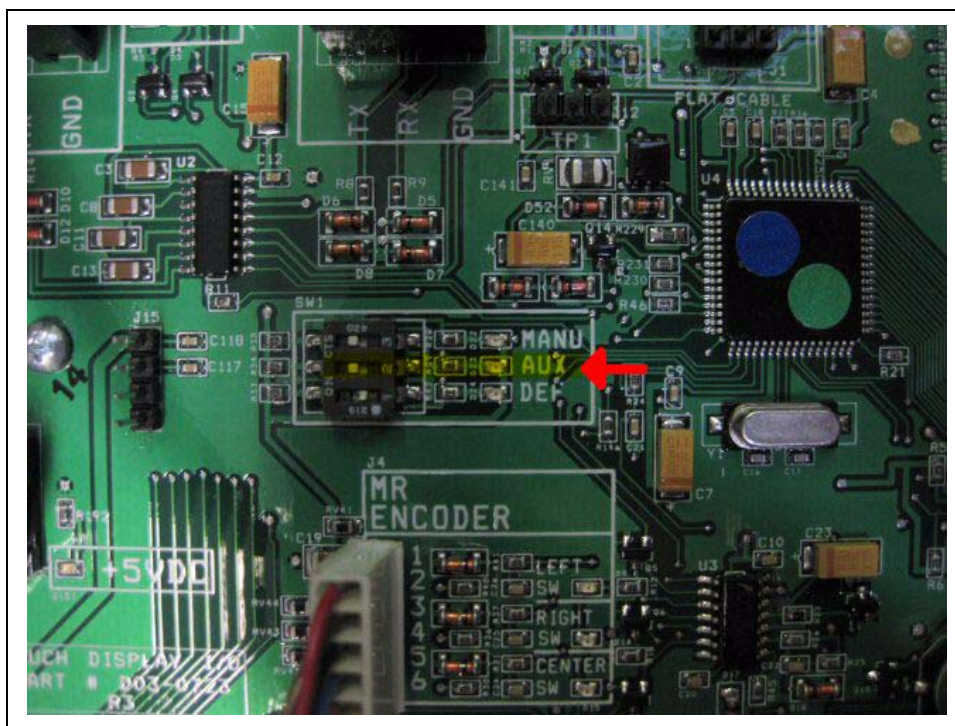

Figure 3B
2. Set AUX dipswitch closeup. (See Figure 3B.)